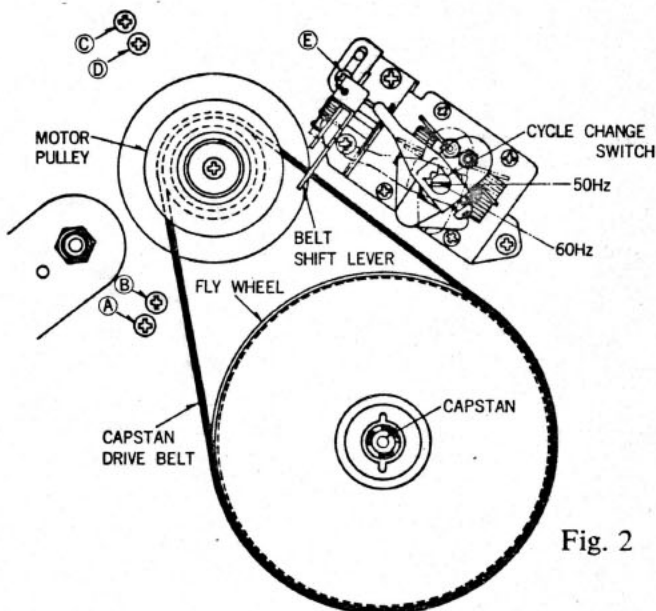

Fig. 2
The Capstan Drive Belt should run in the center of the Motor Pulley and Flywheel, as shown in Figure 1. To position the Capstan Drive Belt, with proper clearance between the Motor Mounting Plate and the Chassis use adjusting Screws (C) and (A), shown in Figure 2. After adjustment, tighten Lock Screws (B) and (D).
- 1) With Motor rotating in the Normal direction, loosen Screws (B) and (D) and adjust Belt position by turning Screw (C).
- 2) With Motor rotating in the Reverse direction, adjust Belt position by turning Screw (A). After Drive Belt position has been properly adjusted to run in the center of the Motor Pulley and Flywheel (according to direction of motor rotation), lock by tightening Screws (B) and (D).
- 4) If the Drive Belt contacts the Belt Shift Lever, loosen Screw (E), and move the Belt Shift Lever Stopper so that the Belt does not contact the Shift Lever.